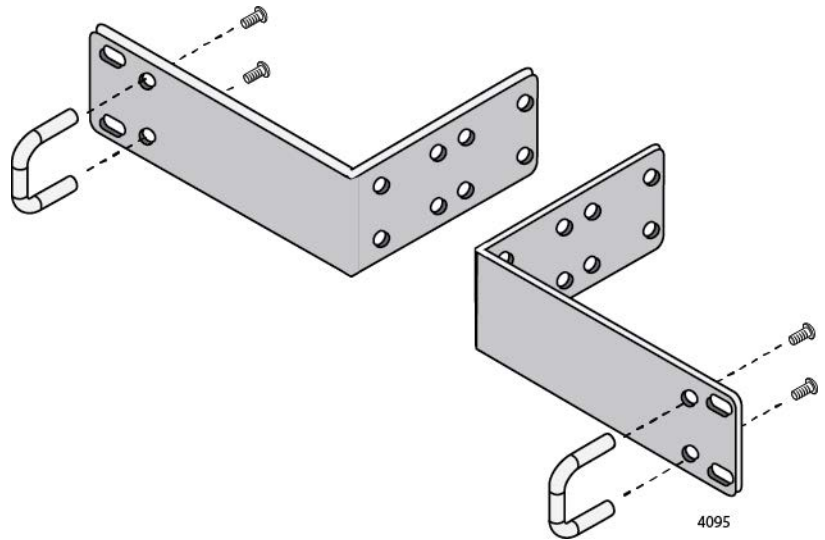

Figure 35. Attaching the Handles to the RKMT-J14 Brackets
1. Attach the two handles to the RKMT-J14 Brackets using the four M3x6mm screws included with the switch. Refer to Figure 35 on page 73.